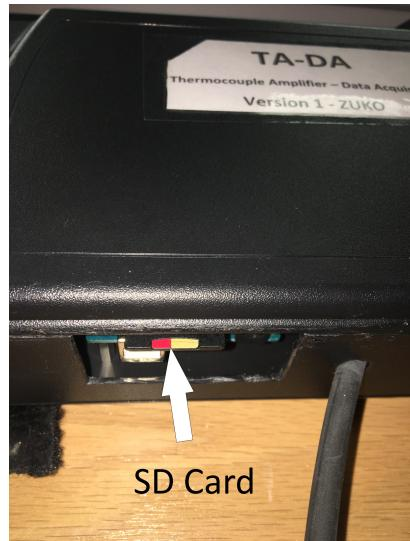

Figure 2: SD card slot location
4. Ensure a compatible SD card is inserted securely into the TADA datalogger (see Figure 2)